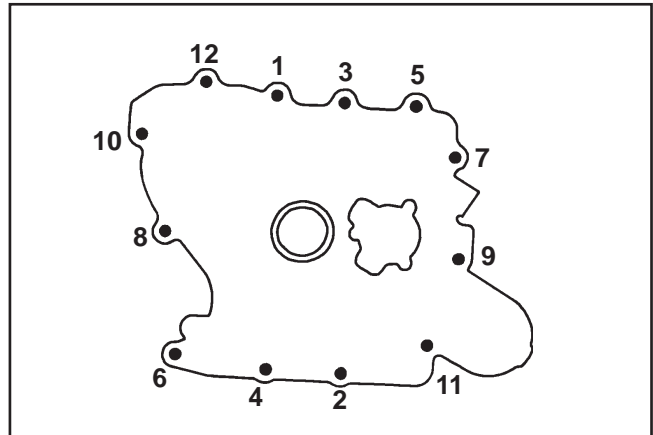

Figure 11-22. Oil Pan Fastener Torque Sequence.
4. Torque the fasteners, in the sequence shown in Figure 11-22 to 24.4 N·m (216 in. lb.).